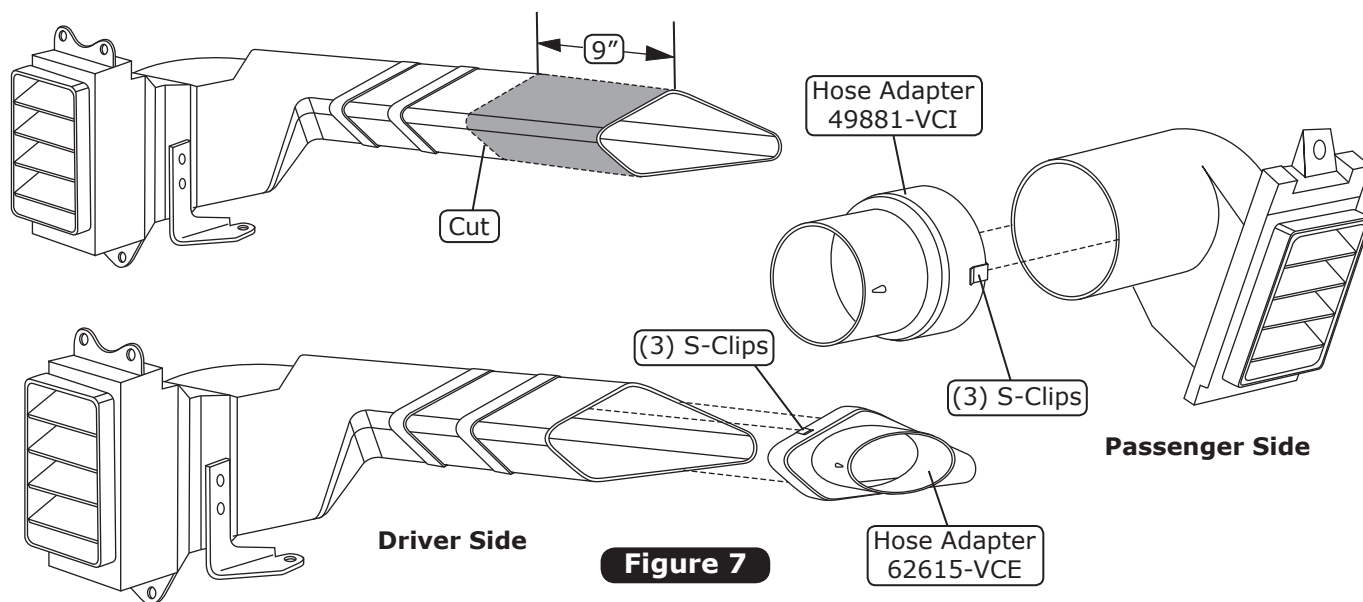

Figure 7
1. Cut off 9" of the OEM driver side A/C duct assembly as shown in Figure 7, below.
2. Install (3) S-clips onto each hose adapter as shown in Figure 7, below.
3. Install the driver & passenger side hose adapters onto the OEM louvers (See Figure 7, below).